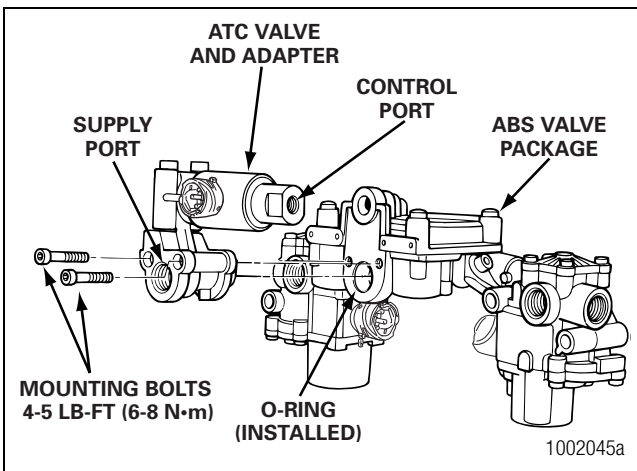

Figure 4.13
3. Use the two M6 Allen-head bolts to attach the adapter to the relay valve. Use a 5 mm Allen-head tool to tighten to 4-5 lb-ft (6-8 N•m). Figure 4.13.